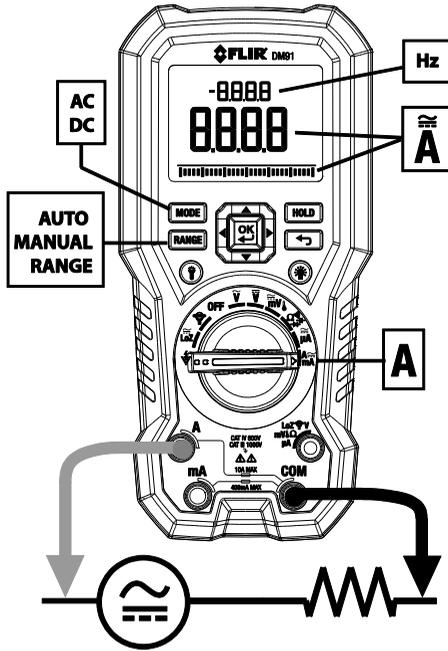
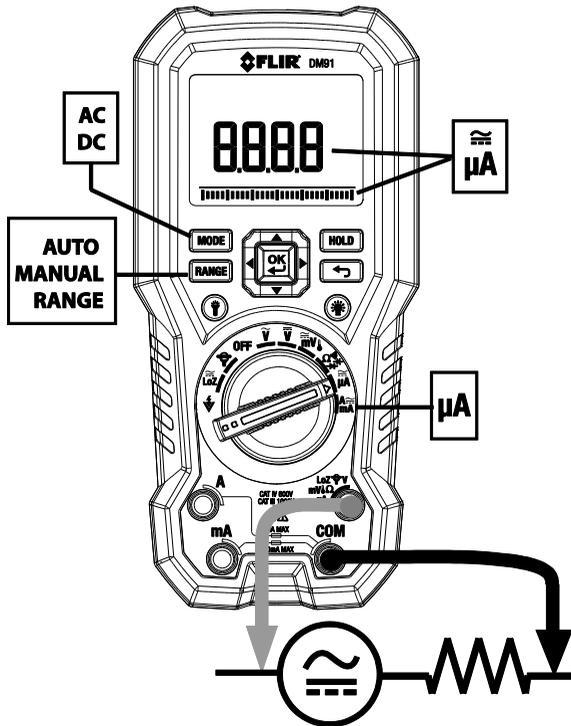

Fig. 5-8 High Current 'A' and Frequency Measurements
Fig. 5-10  $\mu\text{A}$  Current Measurements
4. Connect the probe leads in series with the part in accordance with Figure 5.7 and Fig. 5-8 for 'A' measurements, Fig. 5-9 for mA measurements, or Fig. 5-10 for  $\mu$ A measurements.